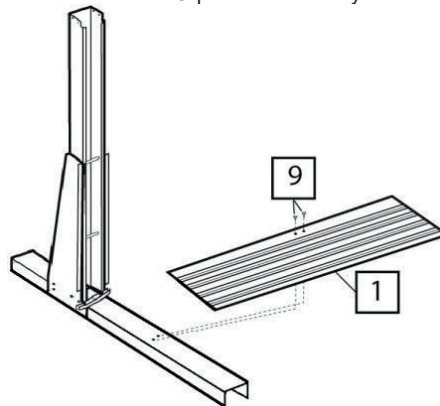
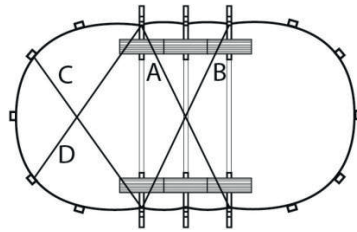
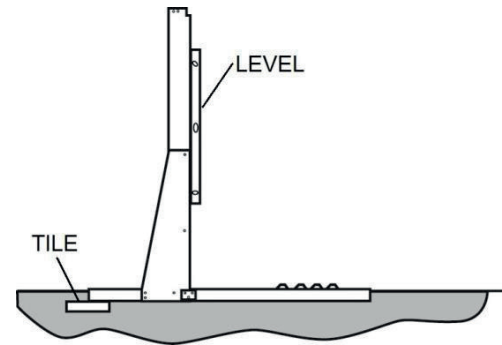

Fig. 18.
Fig. 19
Fig. 20
Set up a 122 cm base plate (1) in each module. These plates must be mounted with the grooved side up and the flat side down. These plates have two holes on one side and you must ensure that these are aligned in the direction of the centre column, Fig. 18.
The outline of a module is drawn on the ground with spray paint, lime or a powder. Once this is done, the module is moved to one side and the soil underneath is removed with a shovel (video: <https://www.youtube.com/watch?v=508QF1PduIk>). The hole depth must be about 5 cm, Fig. 18, and completely level. After the hole has been machined and levelled, the module is inserted, using a spirit level on the top of the module, fig. 19, to ensure that it is properly level.
Then the base plate is set up under each module on the back of the module, Fig. 20. To do this, the module is tilted and the earth under the plate is levelled. After installing the plate, check the module flatness again and take the measurement again, fig. 19.